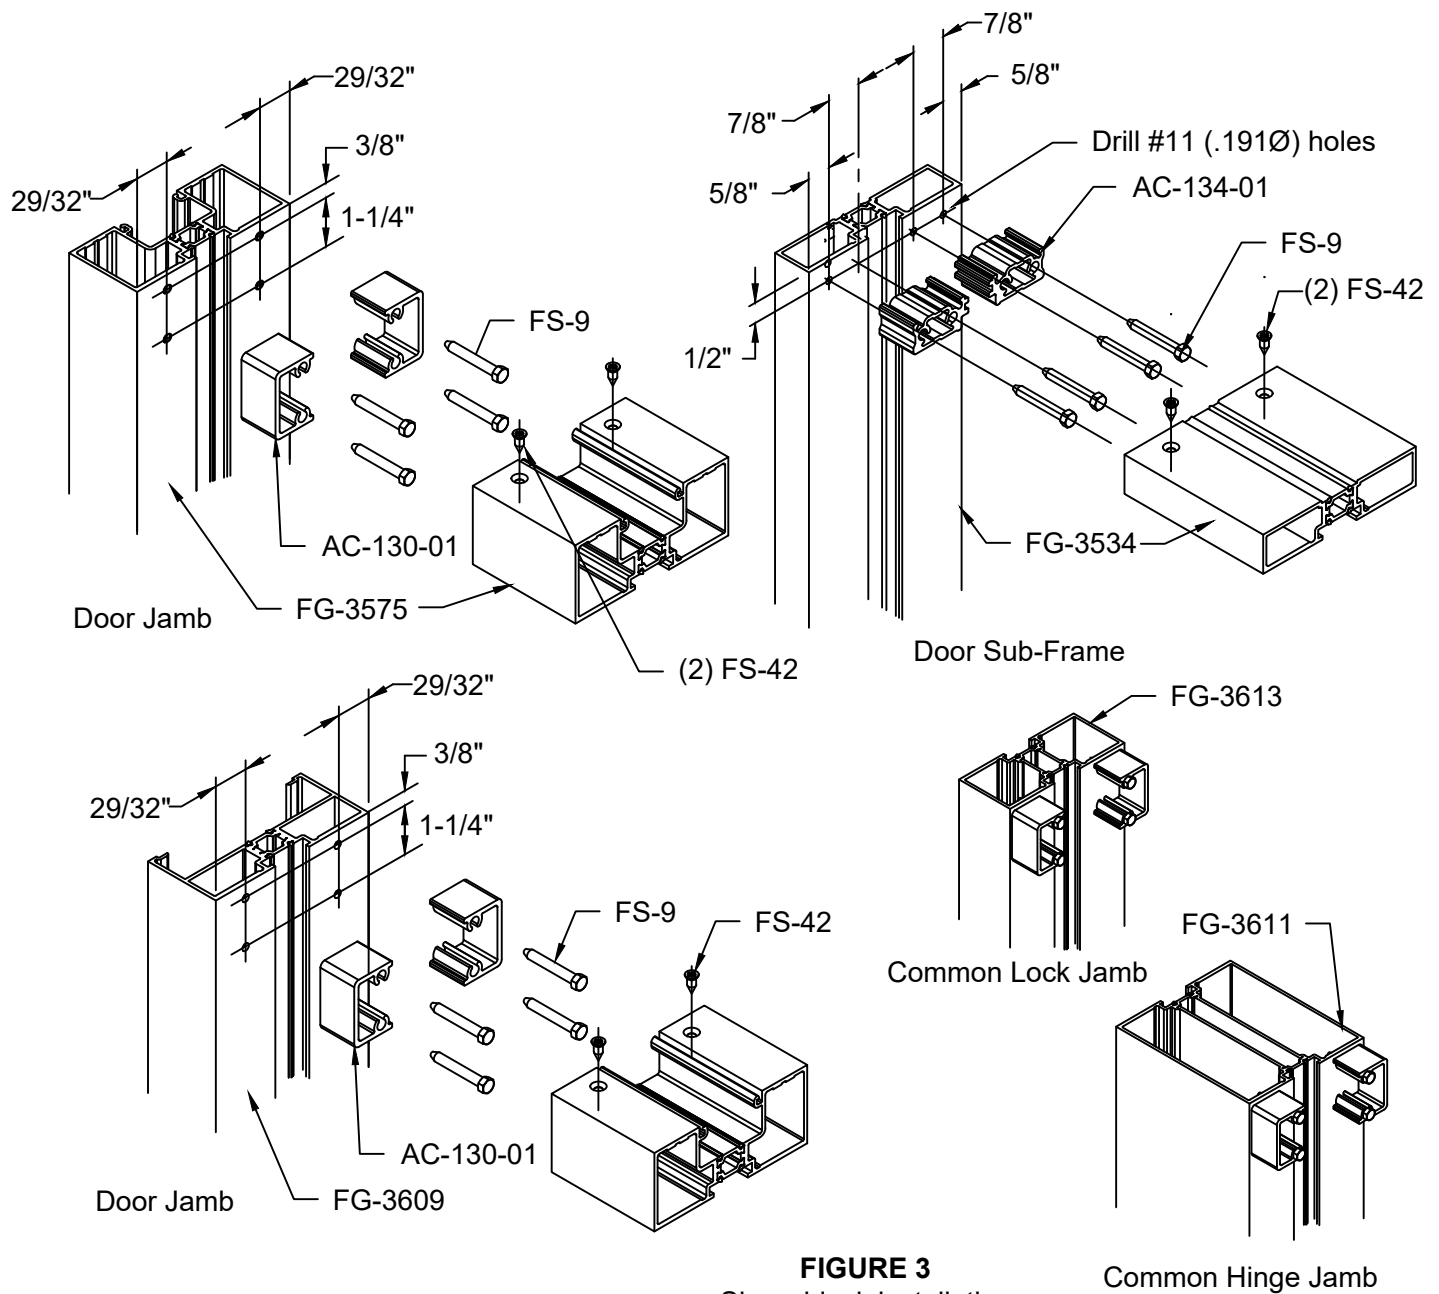

FIGURE 3
1. Attach (2) AC-134-01 shear blocks to top end of door jambs using (4) FS-9 #14 x 1 1/2" hex head fasteners. See FIGURE 3.